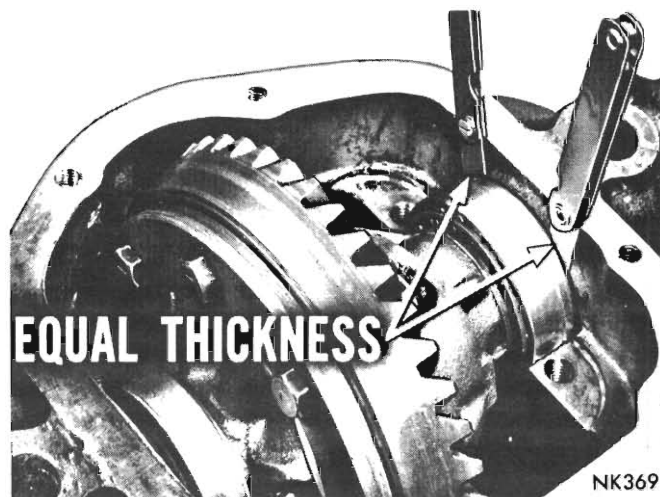

Fig. 30 - Feeler gauges eliminate side play
(2) Install a spacer on the opposite side that will leave a little end play.
(3) Measure the end play by using two sets of feeler gauges. (See Fig. 30). Push the differential to the left side or ring gear side of the carrier. Insert a feeler gauge between the spacer and the right side of the casting above the centre-line of the case. Insert the same thickness of another set of feeler gauges between the spacer and casting below the centreline of the case. *Increase the thickness of the gauges evenly, until a heavy drag is felt.*
(4) Rotate the differential several times in both directions to seat the bearings and cups and re-check the feeler gauge drag. Increase as required.
(5) Install a spacer totalling the combined thickness of the spacer and the feeler gauge. This will provide zero end play.